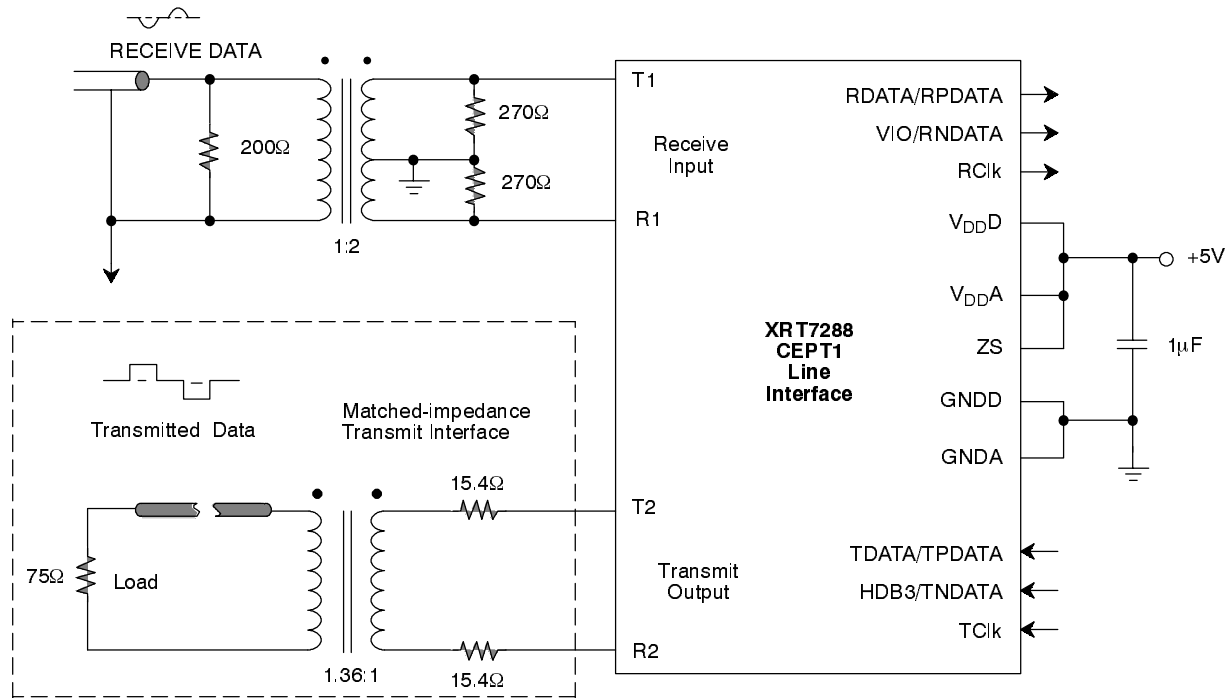
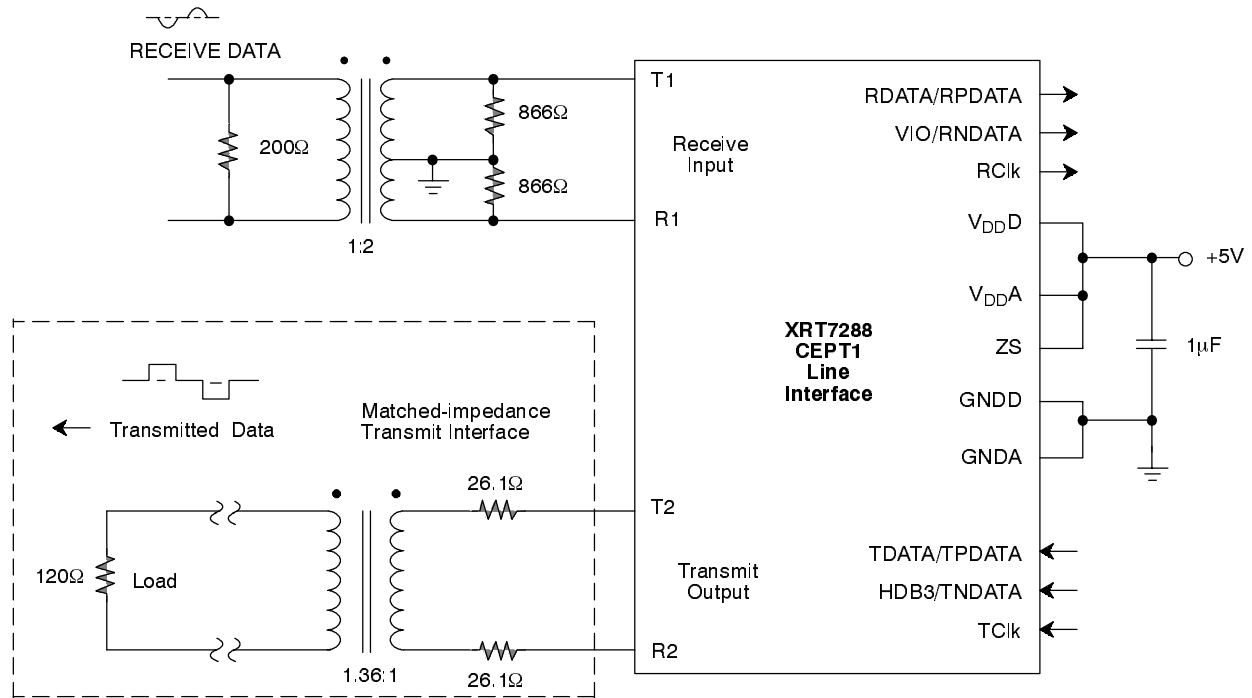

Figure 2. Typical Application Diagram for Coaxial Environment
Figure 3. Typical Application Diagram for Shielded Twisted-Pair Environment
⁵ All measurements are with a matched-impedance transmit interface (see Figure 2. and Figure 3.) and with V_{DD} or GND applied to digital input leads.
- ⁵ All measurements are with a matched-impedance transmit interface (see Figure 2. and Figure 3.) and with VDD or GND applied to digital input leads.
The XRT7288 device is a fully integrated line interface that requires only two transformers, three input termination resistors, and two output impedance-matching resistors to provide a bidirectional line interface between a 2.048 Mbits/s CEPT datalink and terminal equipment. Typical application diagrams are shown in *Figure 2.* and *Figure 3.* for 75Ω coaxial cable and 120Ω shielded twisted-pair operation, respectively.
converter, receive converter, and logic. The transmit and receive converters process information signals through the device in the transmit and receive directions, respectively; the logic is the control and status interface for the device. *Figure 2.* and *Figure 3.* include a matched-impedance transmit-interface section in order to match the output impedance of the transmitter to the line. See *Table 1* for the G.703/CH-PTT specifications for transmit-interface return loss.